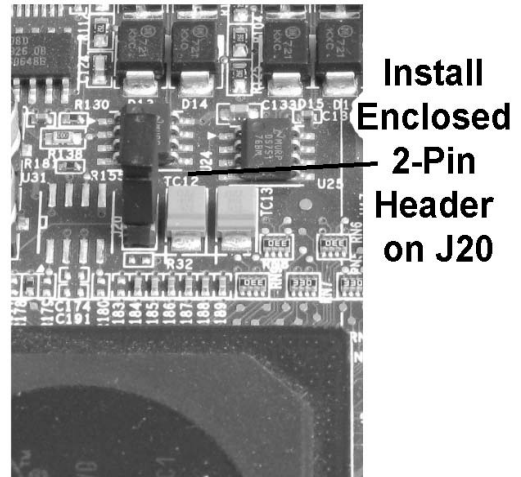

Figure 3: Installing Jumper J20 - WS5 Only
9. This step applies only to the Workstation 5 System Board. Install the enclosed 2-Pin header on J20, located to the right of the Mini-PCI Socket, near the LX800 Processor. See Figure 3, below. The Workstation 5A does not require a jumper change.